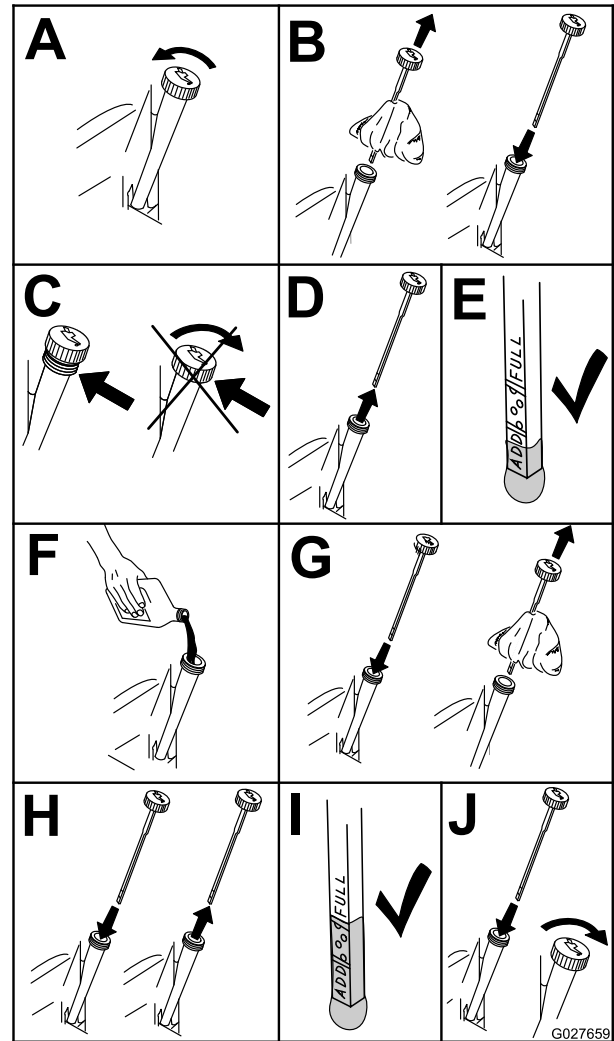

Figure 39
2. Stop the engine, remove the key, and wait for all moving parts to stop before leaving the operating position (Figure 39).